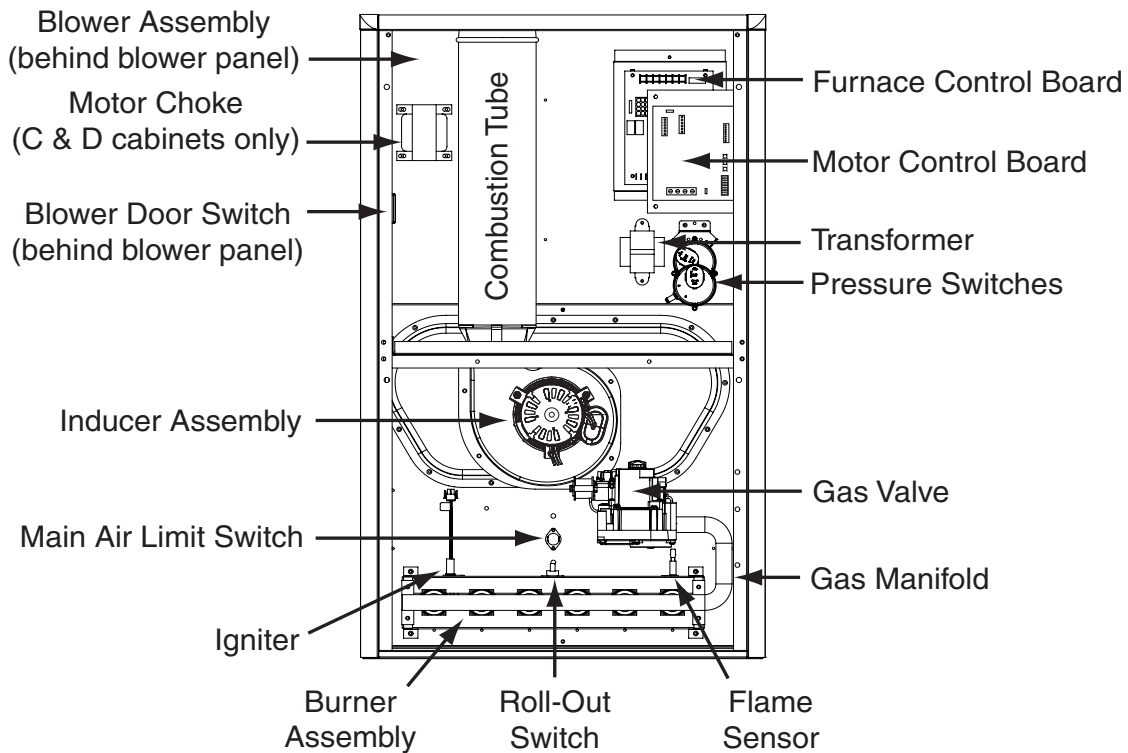

Figure 29. Component Locations
- If the Inducer Blower is operating, and items above have been verified, check the Blower Limit Switch (Figure 29, \(page 37\)) and reset if necessary.
- If the furnace still doesn't operate, check the Flame Roll-out Switches (Figure 29) and reset if necessary.
The descriptions below are various functional components that affect the operation and shutting down of this furnace. Some of these components and their locations are shown in Figure 29, \(page 37\). If any component of the furnace must be replaced, use only factory authorized replacement parts specified in the Replacement Parts List provided online.